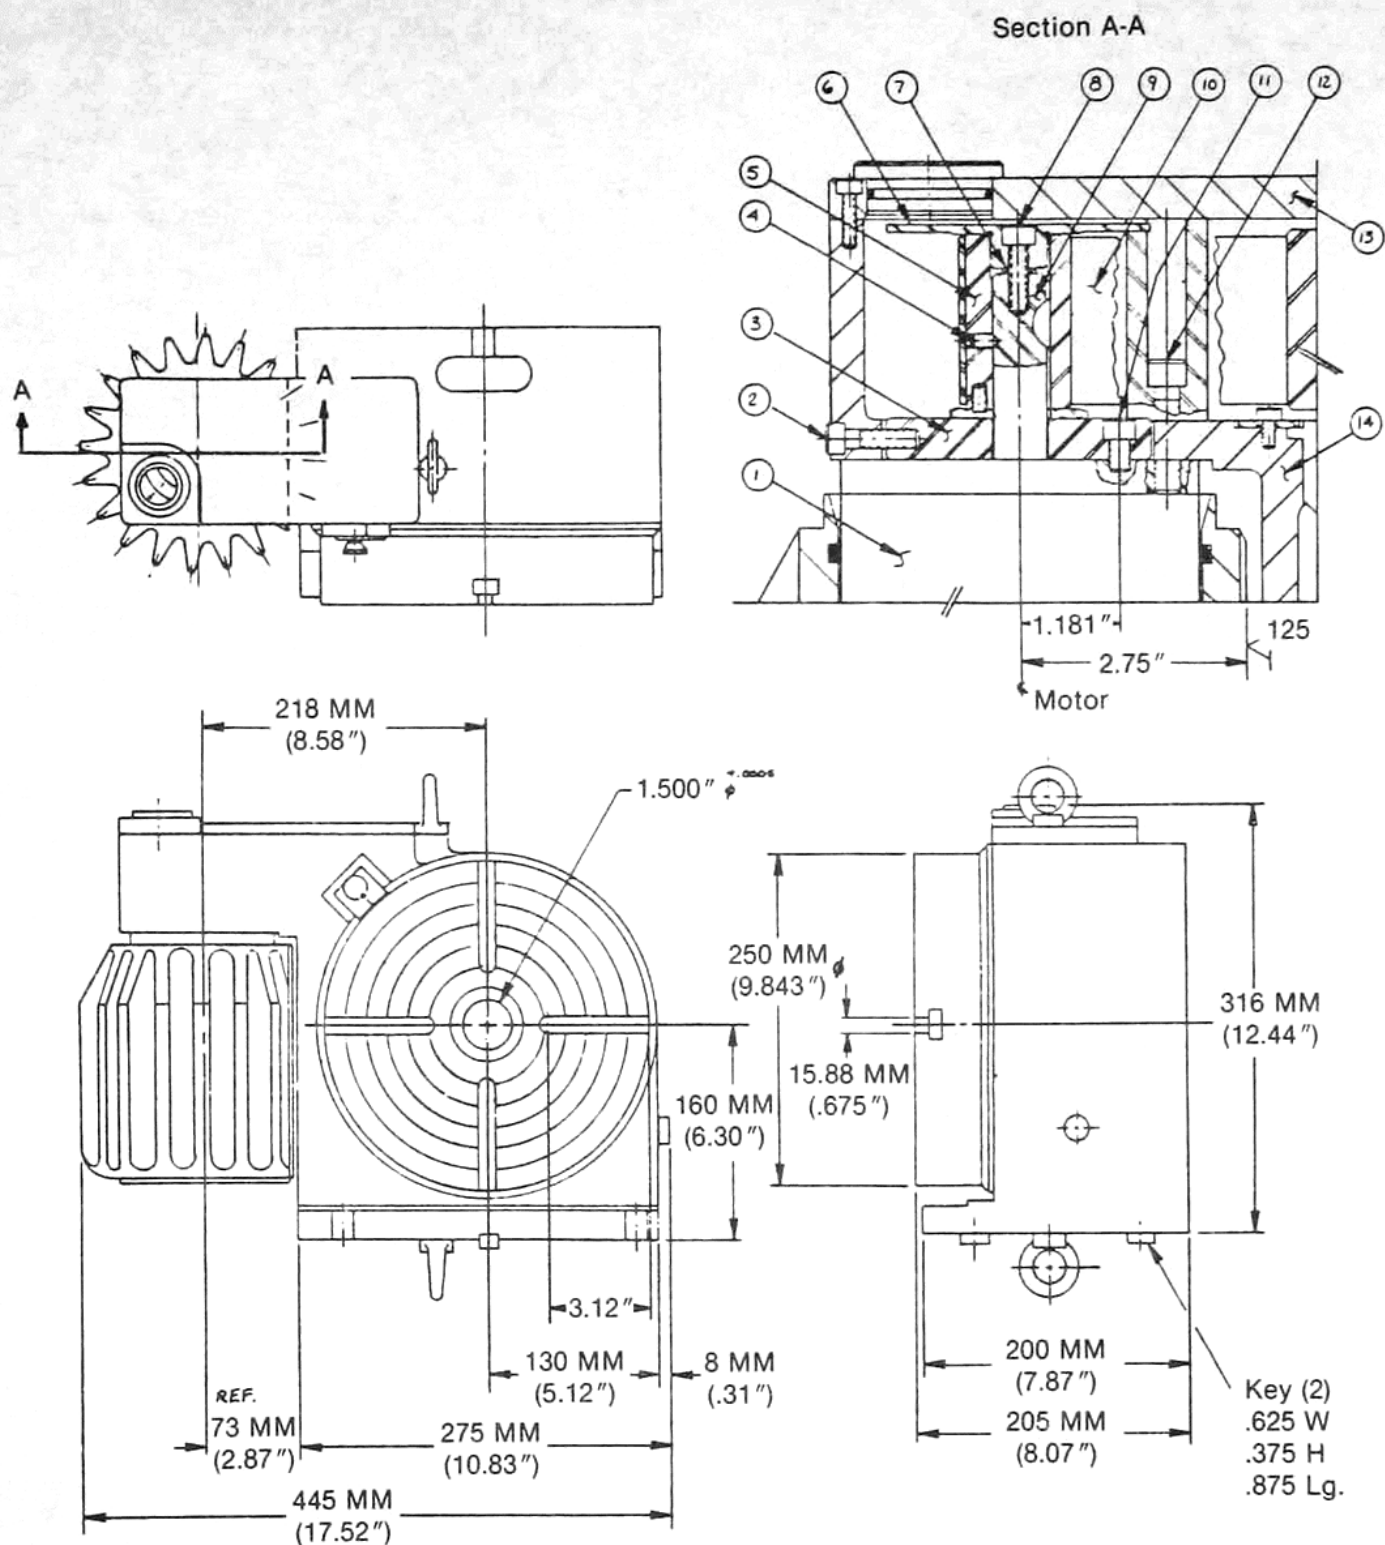

Figure 12-5 Hofmann 10" Rotary Table
A. Index of Parts Ref. Section "A-A" of Figure 12-5
*The detail numbers in ballons, shown in Figure 12-5, Section A-A refer to "Index of Parts", and are **not** the same as the item numbers in the Bill of Material.*